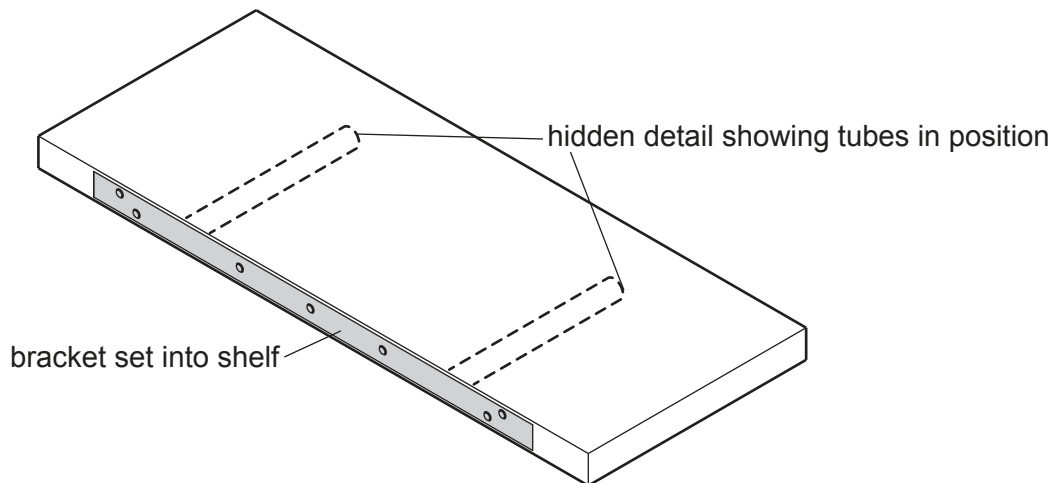

Fig. 13.5
- (e) Fig. 13.5 shows the position of the two tubes inside the shelf when the bracket is screwed to a wall. In use, there is nothing to prevent the shelf from sliding off the tubes.